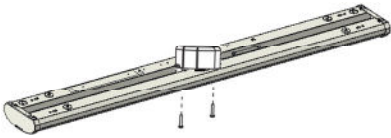
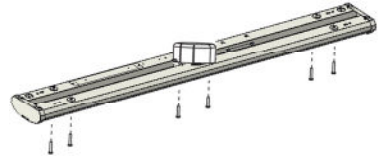

Fig. 4
Fig. 5
- Align fixture mounting slots with the junction box mounting holes. Use 8-32 x 25 mm mounting screws (8-32 x 25 mm #8-32 machine screws) to secure fixture to junction box (Fig. 4). **Note:** There should be no visible gaps between the ceiling surface at the outlet box and the fixture housing (Fig. 5).